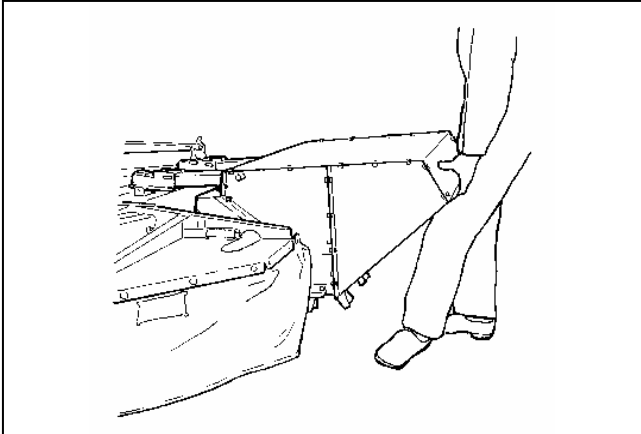

Fig. 29
- FIG. 29**      Place the conditioner and lock with dowels.